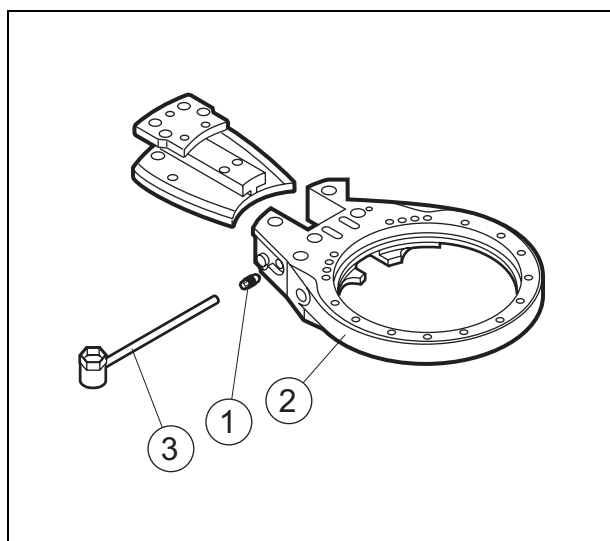

Fig. 36 Bleeding chain tension system
4. Open the bleeder valve (1) 1- 2 turns.
Use the tool P/N 0704040, (3) *See Fig. 36.*
6. Close the bleeder valve (1). As there is no saw chain installed, the piston for the tensioning will move to the outer position and stay there. Repeat this process after about 30 minutes of operation.